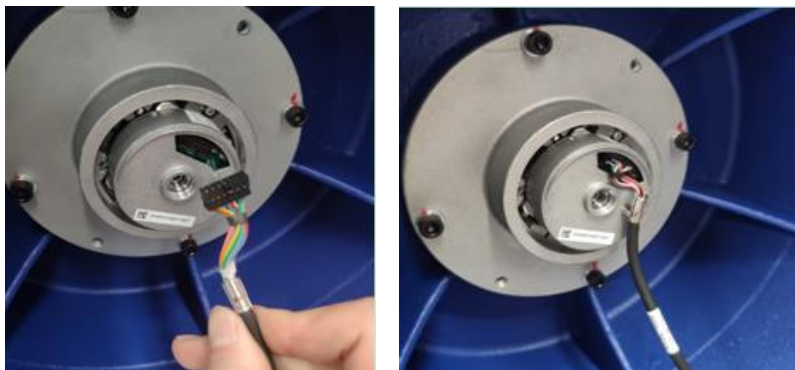

Figure 27
5. Install the encoder cable on the encoder. Take care to orient the plug and socket correctly. See Figure 27.